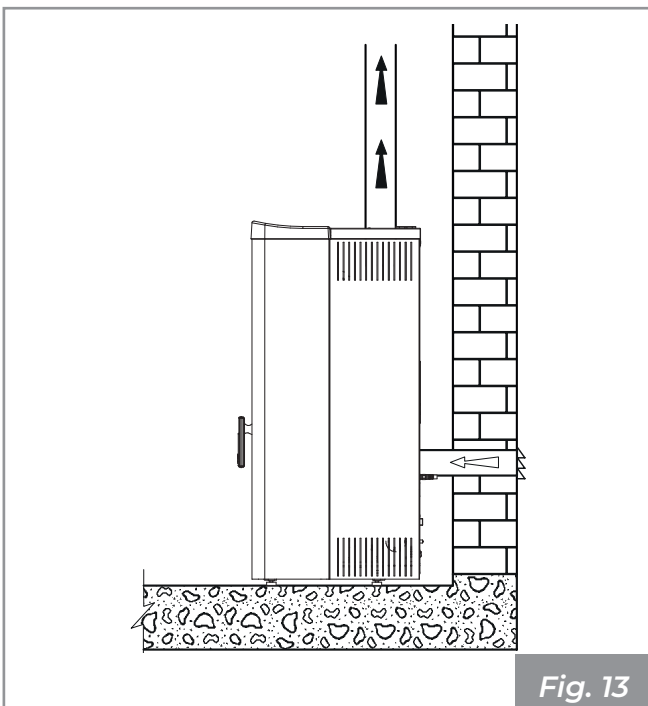

Fig. 13
- to connect the combustion air inlet of the appliance to the air intake using a special pipe (Fig. 13).